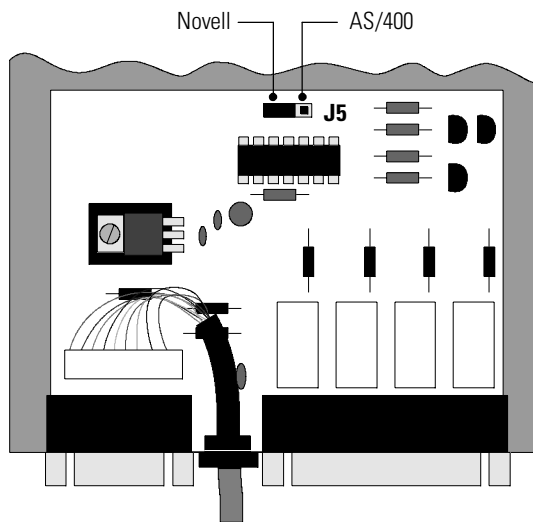

Figure 2. The RIA J5 Jumper
Use the AS/400 mode for configurations where Relay 3 - UPS on Bypass is required. To enable the AS/400 configuration, you must set the J5 jumper to AS/400 (see Figure 2).
2. Remove the cover and set the J5 jumper to the AS/400 position (see Figure 2).